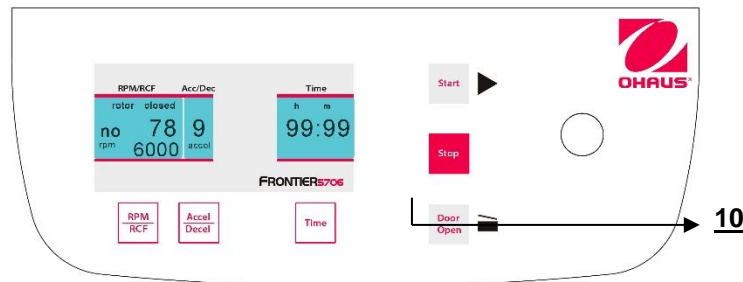

Figure. 23
The run can be interrupted at any time by pressing the **"Stop"** key (10) (See figure 23). After pressing the key the centrifuge decelerates with the respective pre-selected intensity until it reaches standstill.